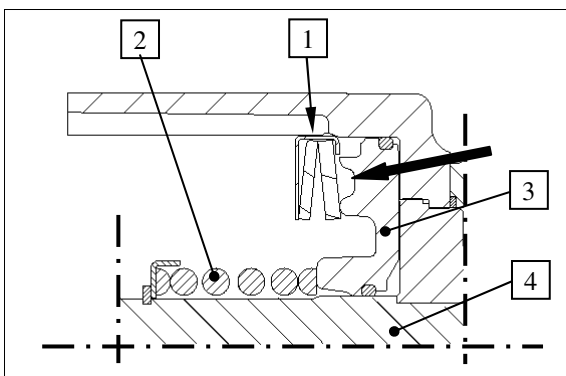

Figure 10
**Installation position of plate see also Figure 10!**